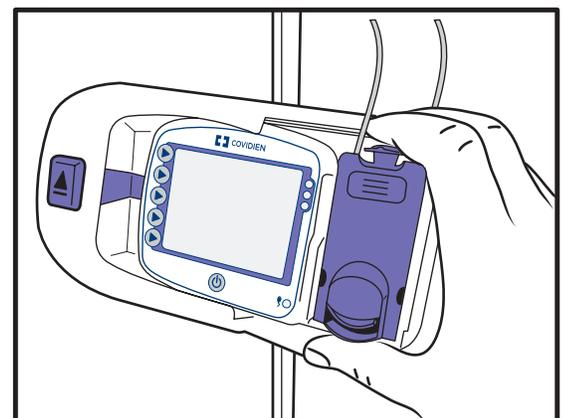

Fig. 3
3. Slide the pump from right to left into the WCH until you hear a click (Fig 3). The WCH is designed to automatically latch the pump to the base when the pump is fully seated in the base.